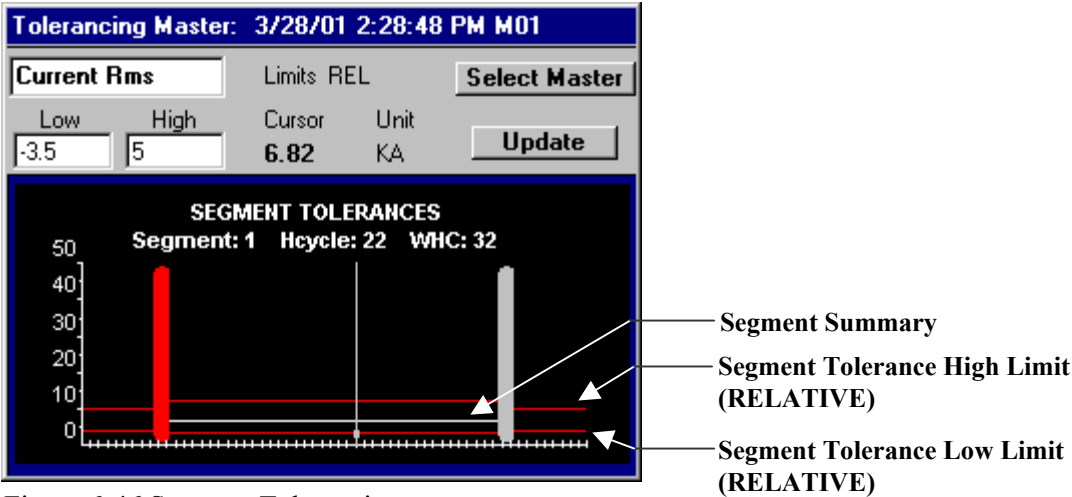

Figure 6-46 Segment Tolerancing
**Segment Tolerancing** allows each segment summary (the average of all halfcycles in a segment) to be tolerated, as shown in figure 6-46.